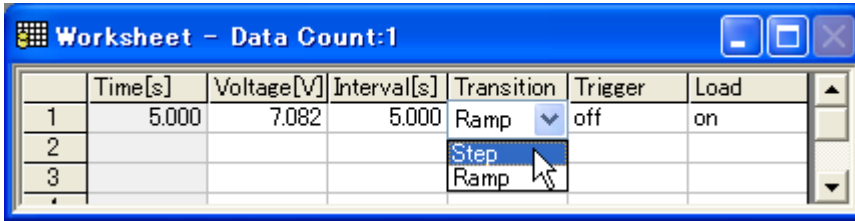

Fig. 4-5 Editing Data in a Cell
- (3) To edit data, simply select the cell to be modified. This will allow you to edit the cell (Fig. 4-5). After editing, press the [Enter] key to confirm the change.